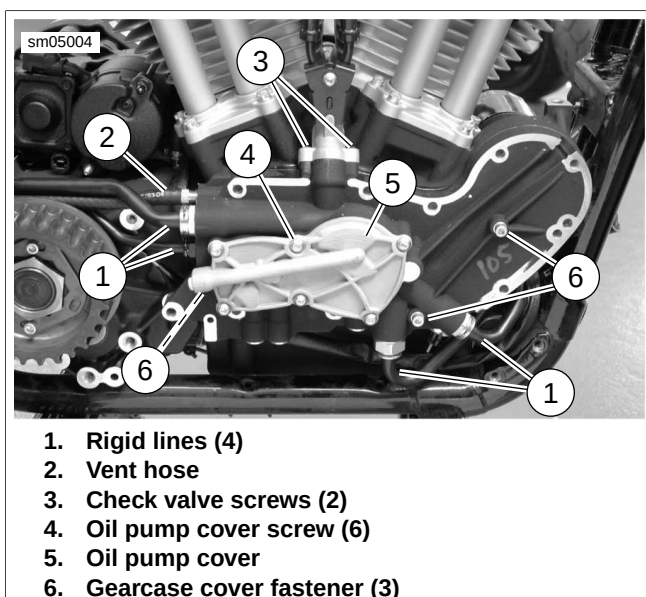
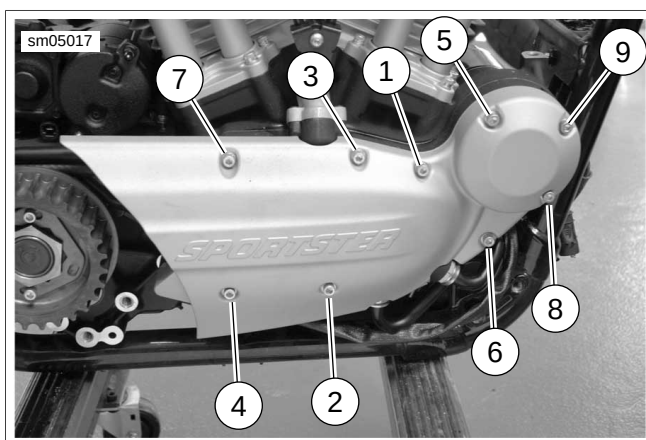

Figure 3-101. Gearcase Cover and Oil Pump: XR Models
Figure 3-102. Oil Pump Cover Torque Sequence: XR Models
11. Figure 3-101. Install gearcase cover with **new** gasket and secure with three fasteners (6). Tighten fasteners to 80-110 **in-lbs** (9.0-12.4 Nm).
13. Install new o-rings in oil pump cover and install using six fasteners (4). Tighten fasteners to 80-110 **in-lbs** (9.0-12.4 Nm).
14. Install check valve housing using a new base o-ring. Tighten fasteners (3) to 84-108 **in-lbs** (9.5-12.2 Nm).
15. Connect rigid lines (1) and vent hose (2). See 3.14 PRECISION COOLING SYSTEM: XR MODELS, Oil Pump Lines.
16. See Figure 3-102. Install gearcase and oil pump cover. Secure with 9 socket fasteners. Tighten in the sequence shown to 80-110 **in-lbs** (9.0-12.4 Nm).